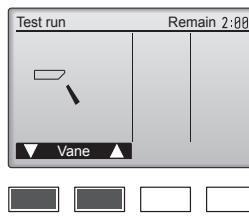

Fig. 6-6
- ① Check the auto vane with the [F1] [F2] buttons. (Fig. 6-6)
② Press the [RETURN] button to return to "Test run operation".
③ Press the [ON/OFF] button.